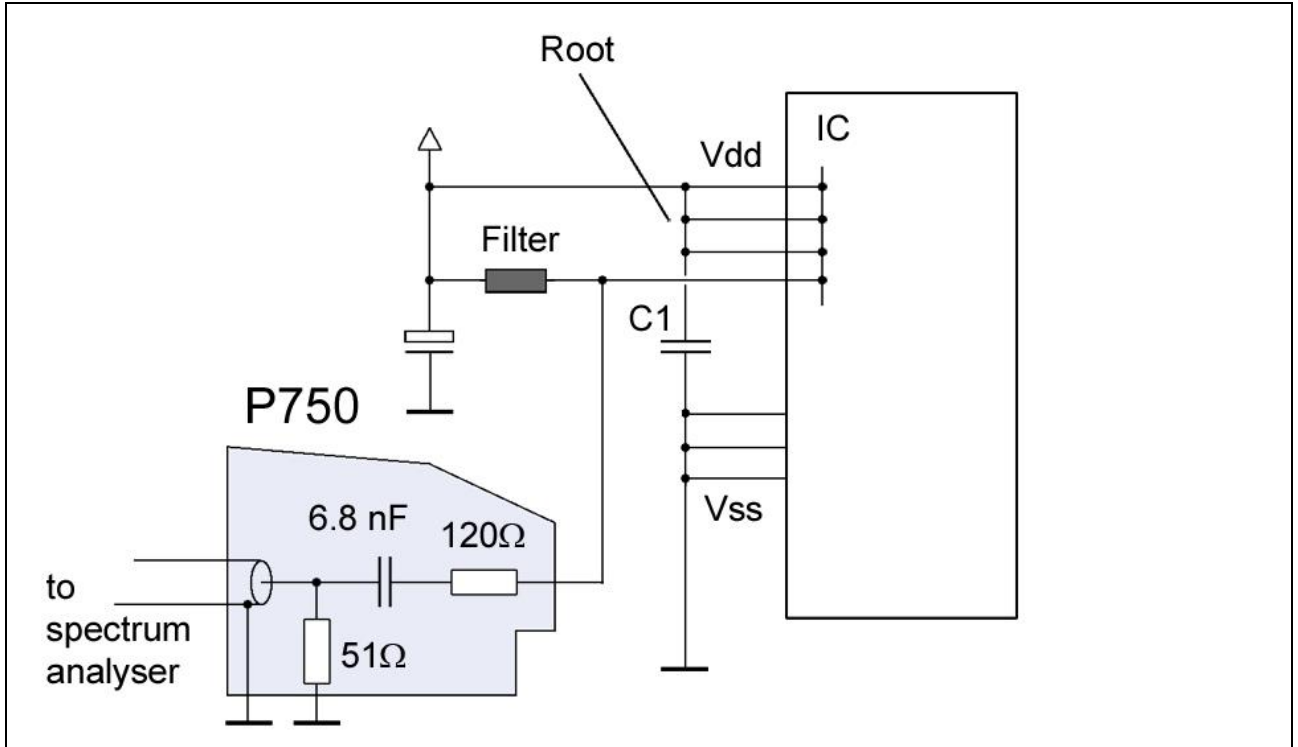

Figure 10: P750, voltage measurement on a Vdd pin
6. Voltage measurement (P750) on a Vdd or Vss pin, **Figure 10**
An IC internal connection to other Vdd supply pins is assumed for a voltage measurement on a Vdd pin (**Figure 10**). This measurement enables the determination of voltage dips on the IC's internal Vdd network.